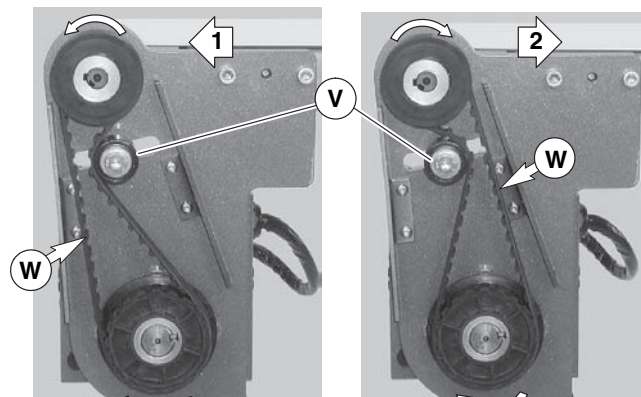

Figure 13
8. Depending on direction of conveyor belt travel (1 or 2 of Figure 13), position belt tensioner (V) as shown. Tension belt to obtain 0.125" (3 mm) deflection for 1.0 lb (456 grams) of force at belt mid-point (W). Tighten tensioner screw to 103 in-lb (12 Nm).
3. Depending on direction of conveyor belt travel (1 or 2 of Figure 13), position belt tensioner (V) as shown. Tension belt to obtain 0.125" (3 mm) deflection for 1.0 lb (456 grams) of force at belt mid-point (W). Tighten tensioner screw to 103 in-lb (12 Nm).